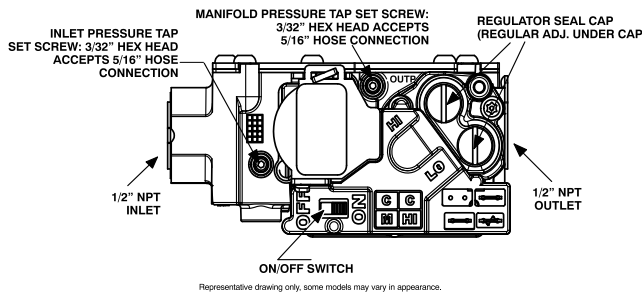

Fig. 63 – Gas Valve with Tower Pressure Ports
1. Adjust manifold pressure to obtain low fire input rate. See Fig. 63.
- h. Remove regulator adjustment cap from low heat gas valve pressure regulator and turn low-heat adjusting screw (3/16 or smaller flat-tipped screwdriver) counterclockwise (out) to decrease input rate or clockwise (in) to increase input rate. See Fig. 63.
2. Adjust manifold pressure to obtain high fire input rate. See Fig. 63.
- b. Remove regulator adjustment cap from high-heat gas valve pressure regulator and turn high heat adjusting screw (3/16-in. or smaller flat-tipped screwdriver) counterclockwise (out) to decrease input rate or clockwise (in) to increase input rate. See Fig. 63.